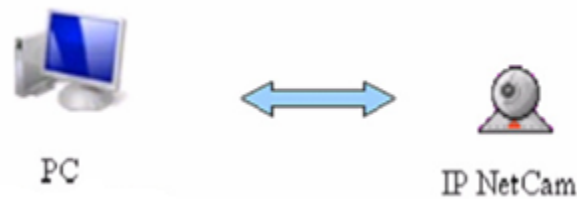

Figure 5.1 - Personal computer connected to a network video camera
- The personal computer is connected directly to the network video camera (Figure 5.1);
1. Configure the network according to the diagram shown in Figure 5.1. Set a static IP address from the 192.168.0.0/24 subnet, for example 192.168.0.5, on the computer. Connect external power to turn on the network video camera. Wait for the green LED on the camera to turn on. This process takes about 1 minute.